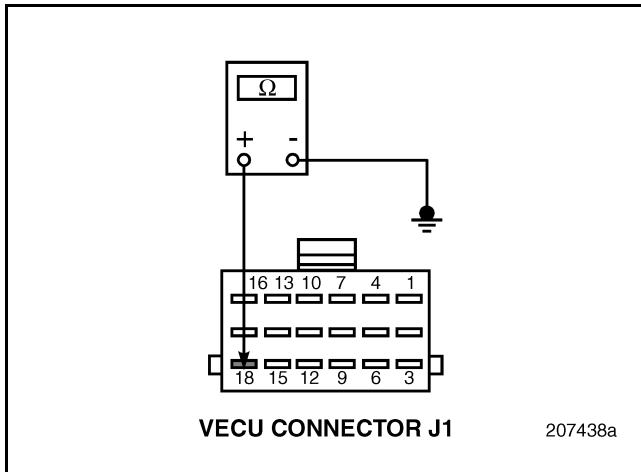

Figure 611
3. Check for continuity between VECU connector J1 pin 18 and a good ground (see Figure 611).